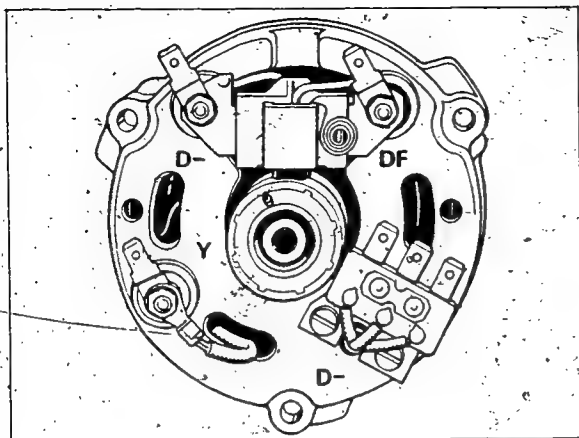

Fig. 1
**2.1 Checking the positive diodes (Figure 1):**
**2.2 Testing the negative diodes (Figure 1):**
**2.3 Testing the exciter diodes (Figure 1):**